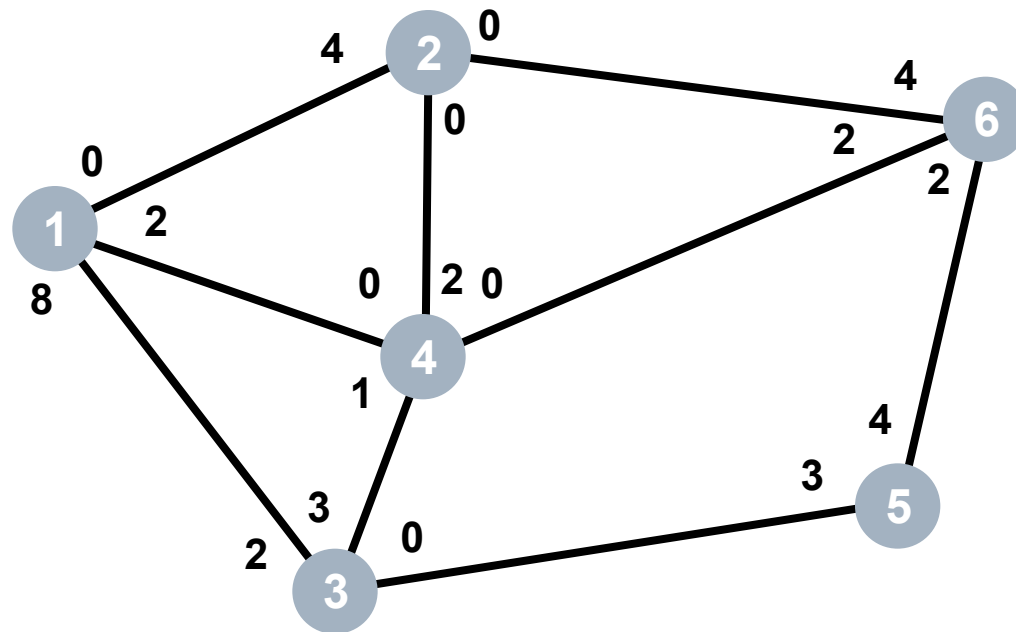

Figure 11.9
- Figure 11.9 shows this adjusted path.